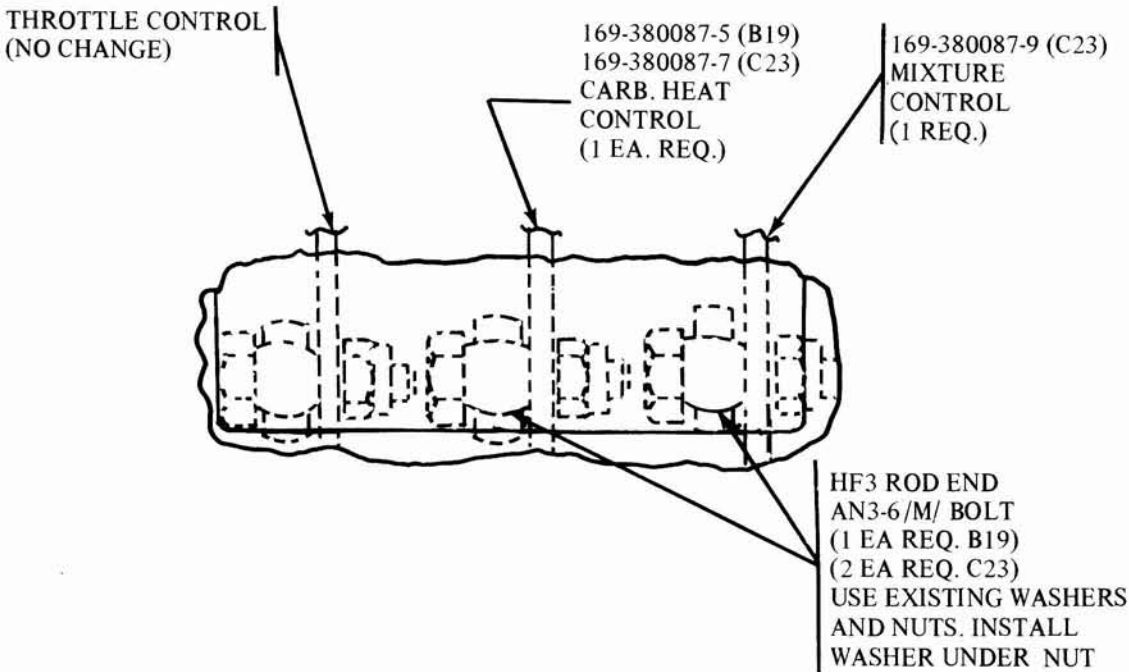

Figure 1. Control Quadrant Installation
7. Attach the control to the quadrant lever using the new AN3-6/M/ bolt and the existing nut and washer as shown in Figure 1.
1. Visually inspect both ends of the mixture and carburetor heat controls. If the controls are attached and routed as shown in Figures 1 and 3, no further action is necessary. If the controls are not attached and routed as shown, proceed with the following steps.
14. Attach the controls to the quadrant levers using the new AN3-6/M/ bolts and the existing nut and washer as shown in Figure 1.